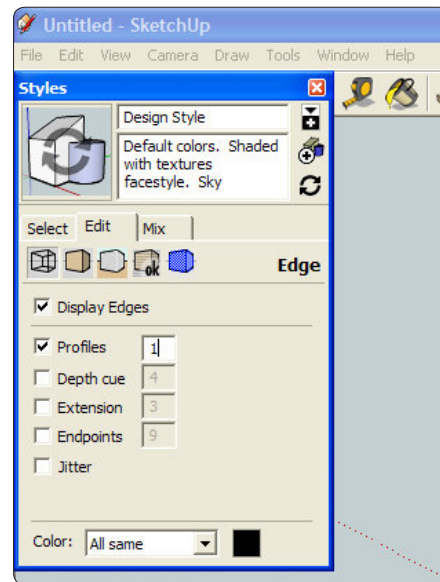

Figure 8. The Edge Styles dialog box.
3. Click the Edit tab in the window. This brings up five small icons and some new windows, as shown in Figure 8.